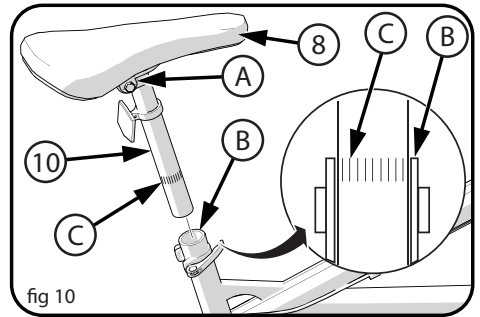

fig 10
- Point the Seat (8) forward and put the Seat Post (10) into the Seat Tube (B) (figs 10, 11).